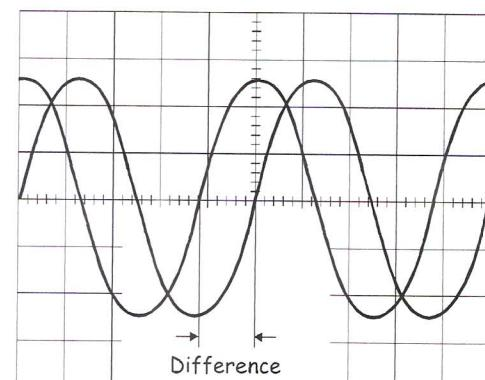

Figure 5
17. As accurately as you can, count the number of divisions between the two signals as shown in Figure 5.